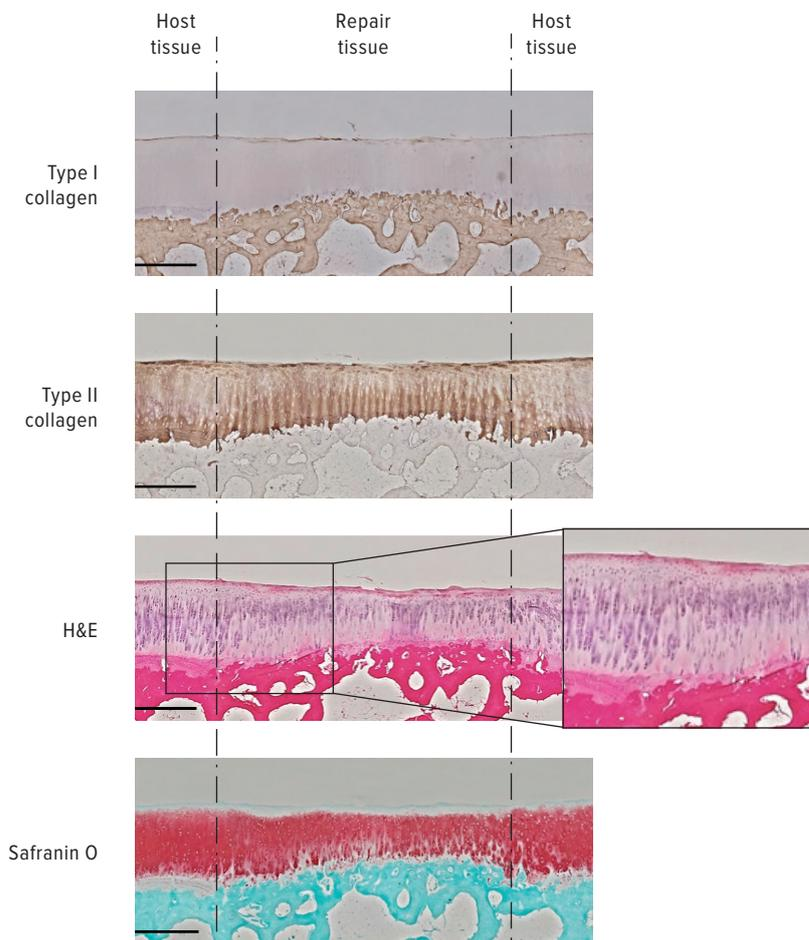

Figure 5. Histological staining in tissue section taken 12 months following Cartiform allograft implantation in goat model
- At 12 months, the lesions treated with Cartiform allograft were filled with highly cellular, hyaline-like repair tissue. Aggrecan content increased and cellular morphology and distribution were comparable to the morphology of normal articular cartilage (Figure 5).⁴